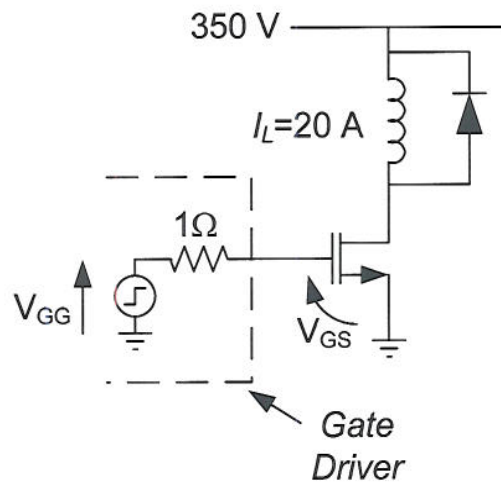
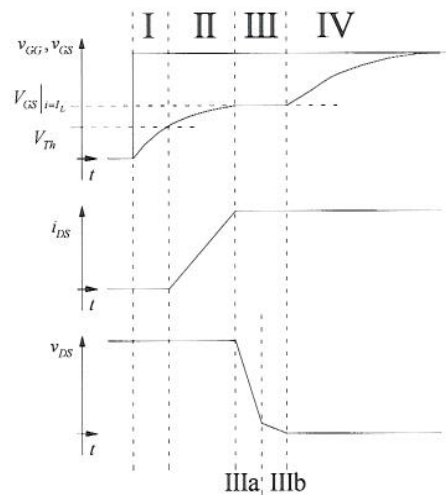

Figure Q3.1 MOSFET switching a diode clamped inductive load
Figure Q3.2 MOSFET switching waveforms
3. This question concerns the operation of power semiconductor devices used in the circuit shown in figure Q3.1.
- (a) You are required to design a diode for use in the circuit of Figure Q3.1.
- b) The switching waveforms of the MOSFET shown Figure Q3.1 are shown below in Figure Q3.2.
Explain the operation of the circuit in during the turn on process (the periods I to IV in figure Q3.2).